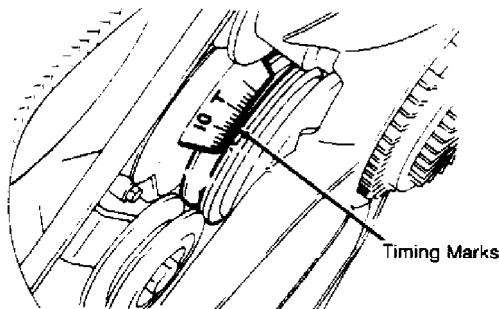
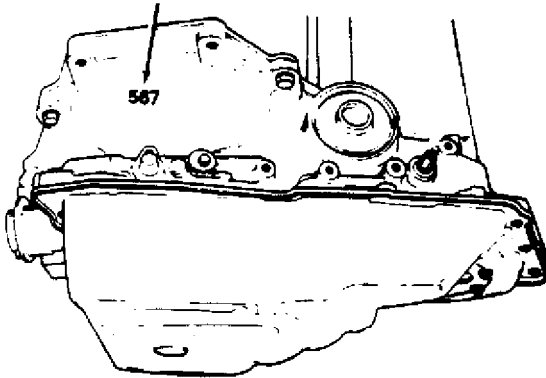
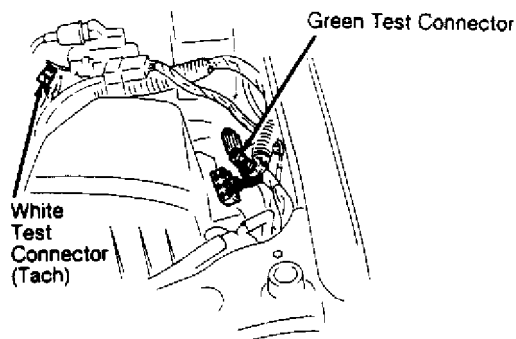

Fig. 1: Locating Ignition Timing Marks (Typical)
Fig. 2: Locating Green Test Connector (B2200 & B2600i)
Fig. 4: Locating Green & White Test Connectors (MPV 2.6L)
On B2200 (PFI) and B2600i, connect jumper wire between ground and Green test connector in right rear corner of engine compartment. See Fig. 2. On all models, connect timing light. Set timing to specification. See IGNITION TIMING SPECIFICATIONS table. See Fig. 1. On B2200 (PFI) and B2600i, remove jumper wire.
2) Connect timing light. Set timing to specification (except RX7). See IGNITION TIMING SPECIFICATIONS table. See Fig. 1. On RX7, if ignition timing is not within specifications, see TROUBLE SHOOTING -NO CODES and appropriate SELF-DIAGNOSTICS articles. Disconnect diagnostic tester or jumper wire from diagnostic connector.
Connect jumper wire between ground and Green test connector in left front corner of engine compartment. See Fig. 4 or 5. Connect timing light. Set timing to specification. See IGNITION TIMING SPECIFICATIONS table. See Fig. 1. Remove jumper wire.